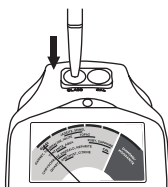

Fig. 1.5
- Press the probe tip onto the glass test disc located on the left of the indicator lamp (**Fig. 1.5**). Apply sufficient pressure to retract the protruding tip completely into the probe pen. The indicator should rise to and remain within the red strip (preferably at the center of red strip) with “Glass” printed on top, within two to three seconds.